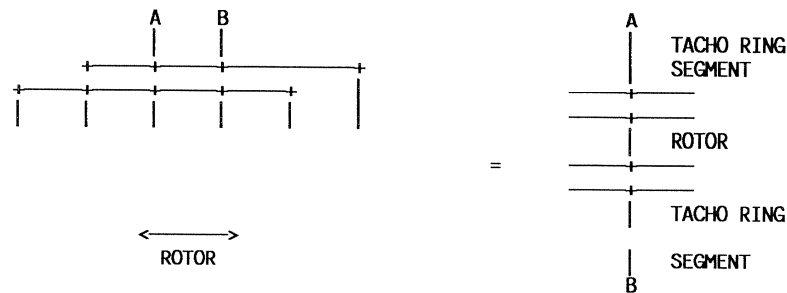

Fig. 3.1.6
- The capstan motor tacho consists of two insulating plastic rings. The inner circumference of these has teeth made of conductive plastic. The externally serrated flywheel (90 teeth) is rigidly coupled to the capstan motor shaft. Each plastic ring is subdivided into 6 segments of 14 teeth each. The teeth within each segment are electrically interconnected. These six segments form two electrically interconnected groups in which each of the 3 segments is offset by 120°. These two groups of 3 segments with the serrated flywheel in between can be considered as a variable capacitor whose capacitance fluctuates when the flywheel rotates (refer to Fig. 3.1.6). The frequency of the capacitance variation is 90 times greater than the rotational frequency of the capstan shaft. The two rings are mutually offset by half a tooth which means that not only the speed but also the sense of rotation can be detected with these rings.